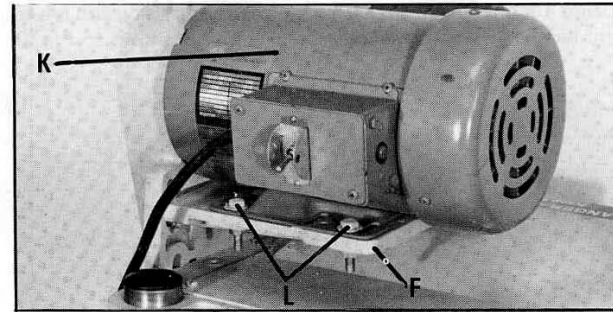

Fig. 14
4. Place motor (K) on motor plate (F), as shown in Fig. 14, with motor pulley through hole in belt guard. Fasten motor (K) to motor plate (F) using the four sets of motor mounting bolts, washer and nuts (L). Do not completely tighten motor mounting nuts and bolts at this point.